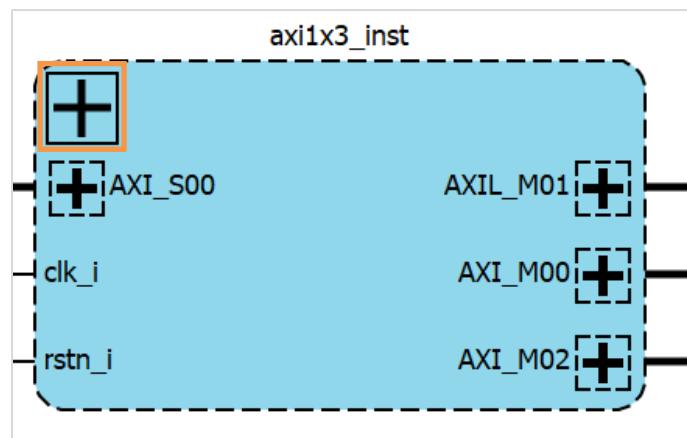
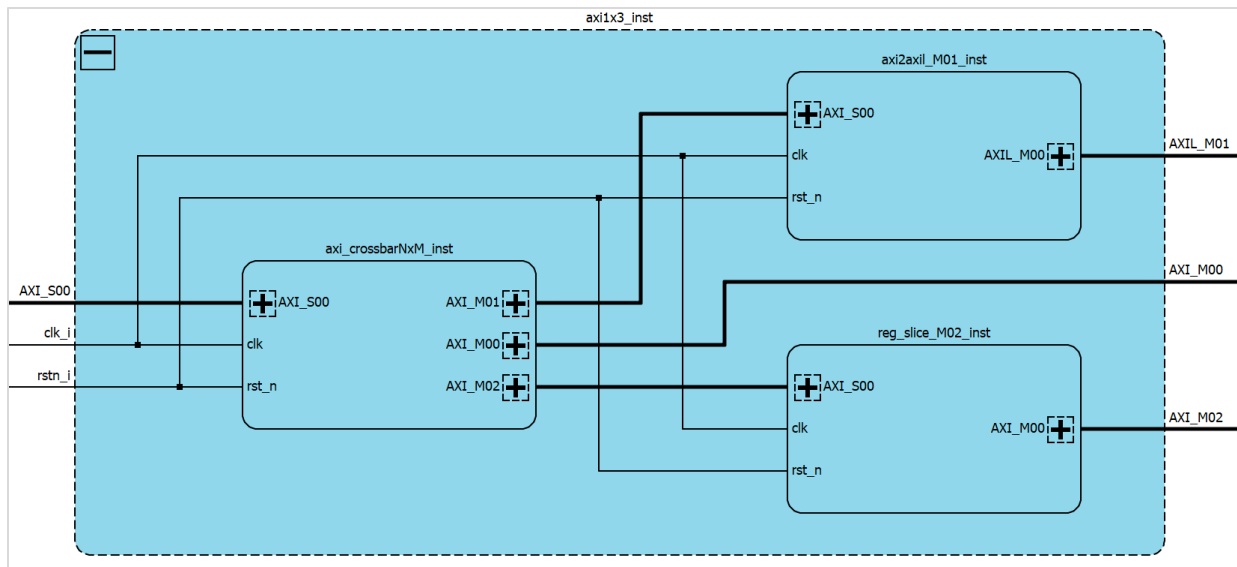

Figure 2.172. Hierarchical IP
Figure 2.173. Hierarchical IP Scope in Detail
1. Click **Expand IP** sign  on the left corner of the hierarchical IP (Figure 2.172) to show the detailed design scope of this IP (Figure 2.173).